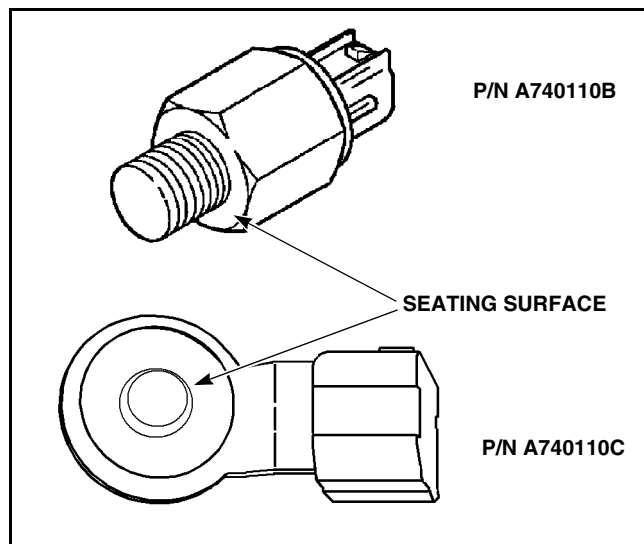

Figure 4.05-14 Knock Sensor Seating Surface
1. Apply a very thin coat of a blueing paste, such as Permatex® Prussian Blue (or equivalent), to seating surface of knock sensor (see Figure 4.05-14).